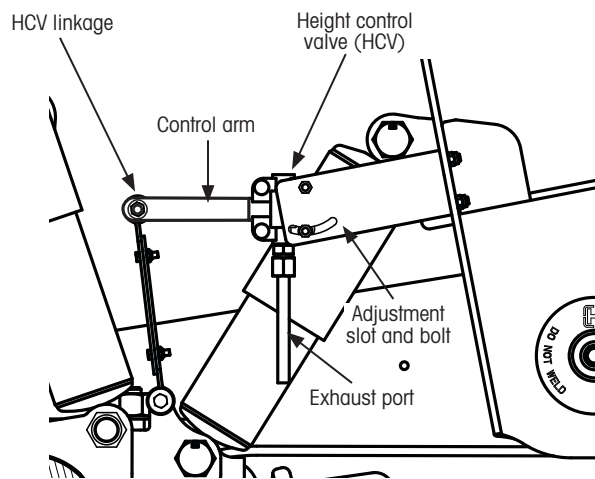

Figure 31: Height Control Valve components
Adjustments are made using the adjustment slot shown in Figure 31. To adjust the suspension ride height:
2. Loosen HCV pivot and adjustment slot bolts to enable adjustment (Figure 31).